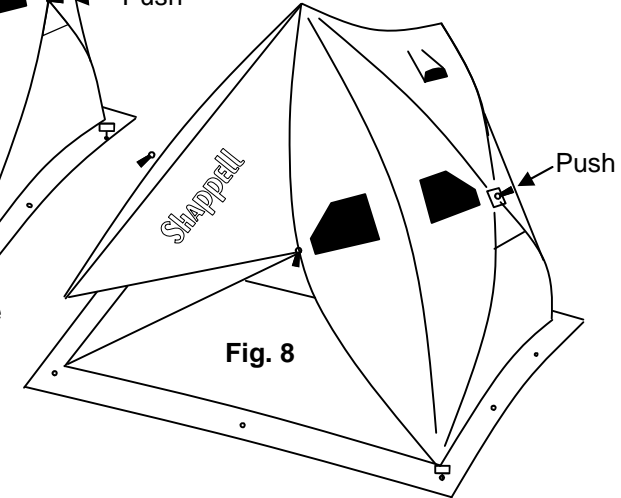

Fig. 8
2) Push remaining Side Hubs in. (Fig. 8)